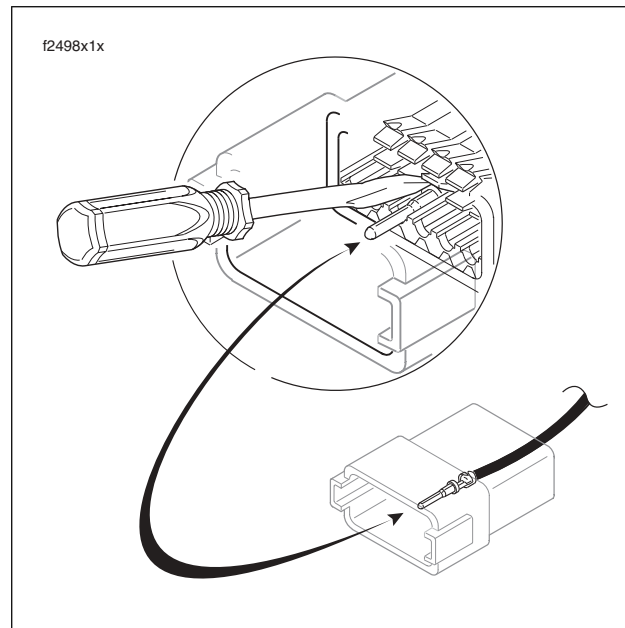

Figure B-12. Depress Terminal Latch & Back Out Pin
2. Use a pick or small screwdriver to depress terminal latches inside socket housing and back out sockets through holes in rear wire seal. See Figure B-12.